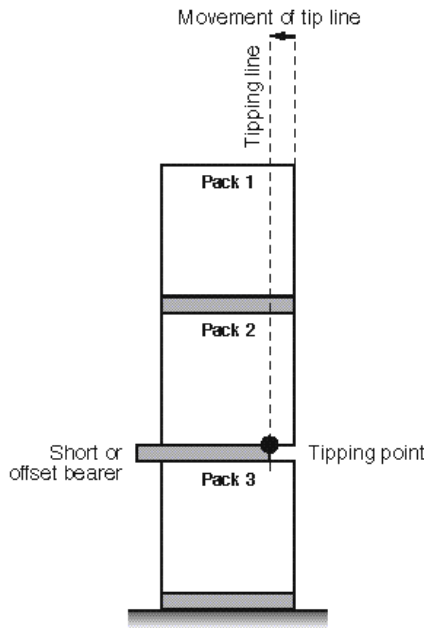

Figure 1 Schematic showing the movement of the tip line and tip point due to a short or offset bearer
- Position bearers carefully to prevent timber in the supported pack from sagging and to avoid offsets in the stack. Figure 1 shows the effect of a short or